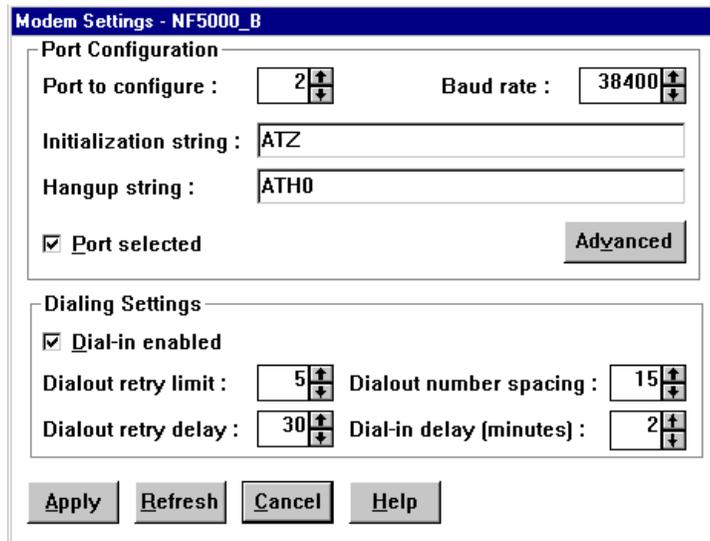

Figure 207. Modem Settings
2. Click the **Modem** button for the modem settings. Figure 207 appears: